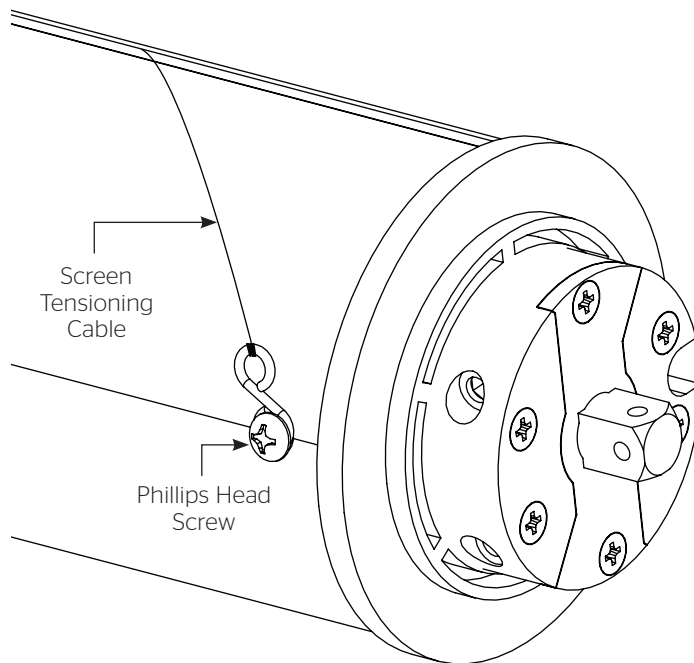

Figure 9
1. Once the old screen and roller assembly is out of the case, remove the Phillips head screw securing the screen tensioning cable to the roller on the motor end (Figure 9).